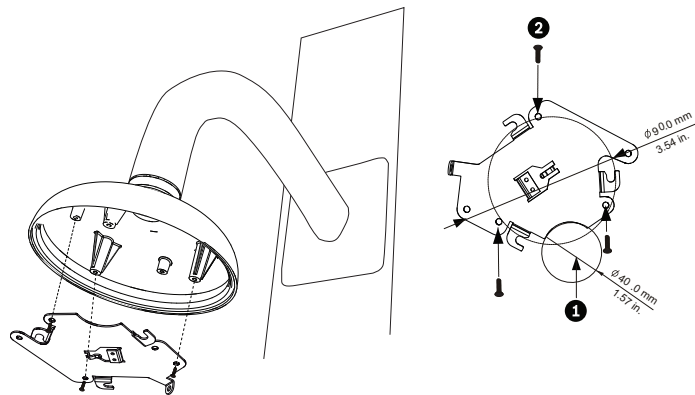

Figure 5.4 Attach Mounting Plate to Dome Cap
1. Route wires on side of mounting plate with crescent shaped cut-out (Ref. #2 *Figure 5.4*).